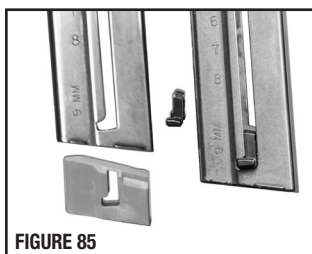

FIGURE 85
- Start the follower into the magazine tube from the bottom. Insert the load assist button from the side of the magazine tube and slide through the follower. The hole in the follower needs to line up with the shaped hole in the tube (FIGURE 85).